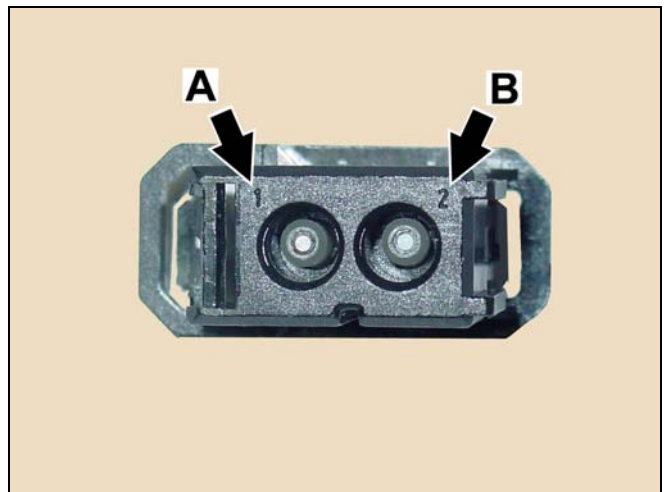

Figure 9
- Remove the fiber labeled “SDARS” from slot 1 (A, Figure 9) of the MOST connector and insert the fiber labeled “SDARS 1” in its place
- Remove the fiber labeled “TEL” from slot 2 (B, Figure 9) of the MOST connector and insert the fiber labeled “TEL 1” in its place
- Remove the fiber labeled “SOUND” from slot 2 (B, Figure 9) of the MOST connector and insert the fiber labeled “SOUND 1” in its place